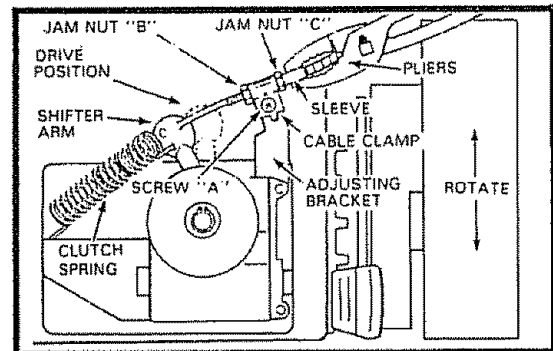

FIG. 13
- Move shifter arm to drive position while rotating front wheels to be sure jaw clutch is engaged. Pull threaded sleeve with pliers (See Fig. 13). Do not pull on control cable.